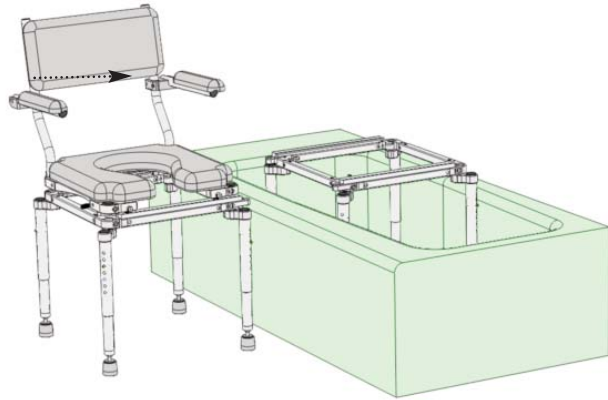

Figure 11
**C** Position the assembled commode section of the slider next to the outside wall of the bath tub (Refer to Figure 11).